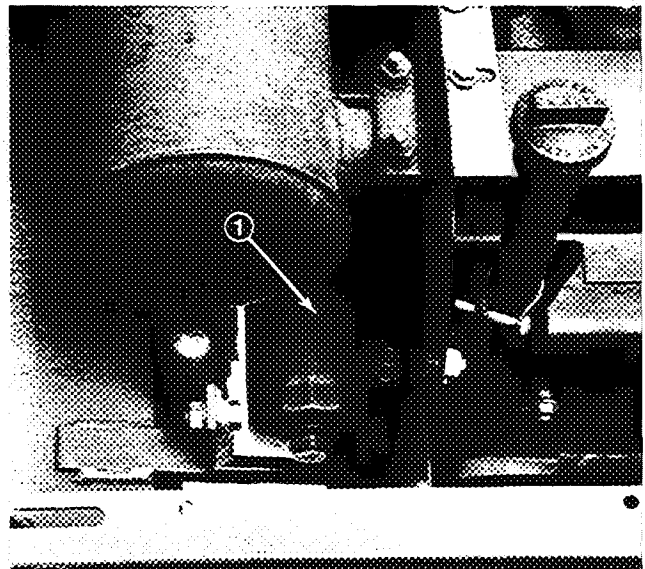

Figure 29
4. Remove oil drain plug and allow oil to flow into drain pan. Remove and replace oil filter (Fig. 29); refer to parts catalog for part number.